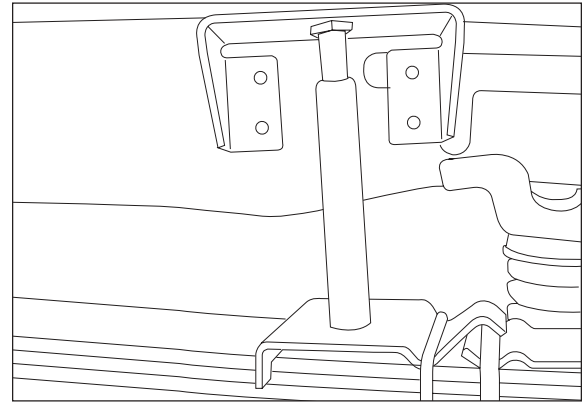

Figure 10
- a. **'99 Silverados/Sierras:** Adjust the upper bracket on the threaded tool until the upper rearward hole lines up squarely on the ridge (Figure 10). Not all '99 Silverado/Sierra models have this reinforcing frame ridge. If the vehicle does not have it, place the bracket in the middle section of the frame.